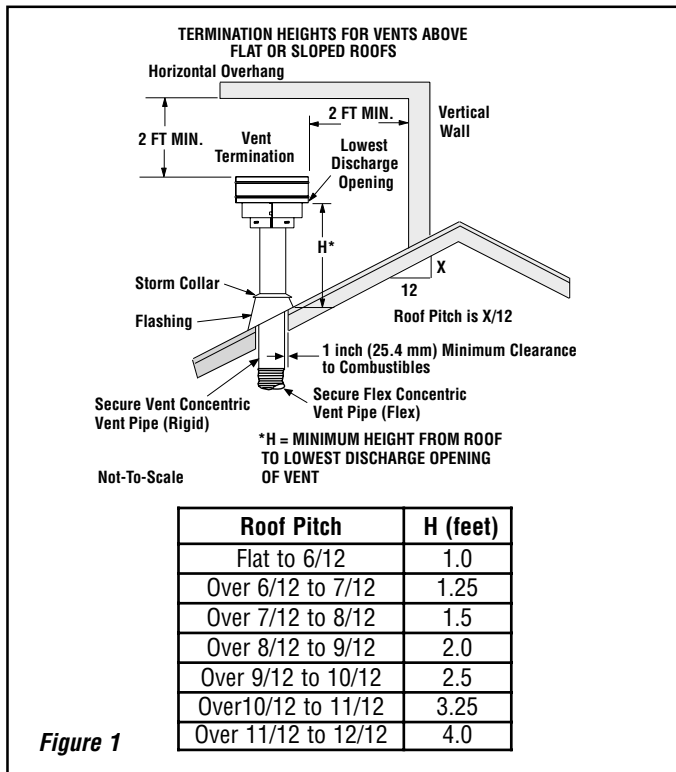

Figure 1
- b - the minimum distance between the highest point where the pipe penetrates the roof and the lowest discharge opening of the termination as given in **Figure 1**.
Step 10. Slide the rigid co-axial vent pipe through the roof support collar as shown in **Figure 8**. Temporarily attach the kit-provided vent termination to the end of the vent above the roof. Position the vent / termination assembly to obtain the minimum height "H" shown in **Figure 1**. Tighten the fastener on the roof support collar to secure the vent / termination assembly. Remove the termination.